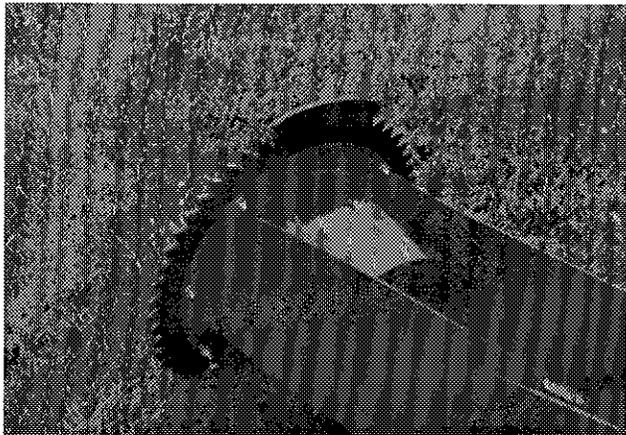

Figure 28
- 1) Bolt the 47 tooth ring-gear onto chute flange with plain segment lined up with chute discharge opening (Fig. 28).